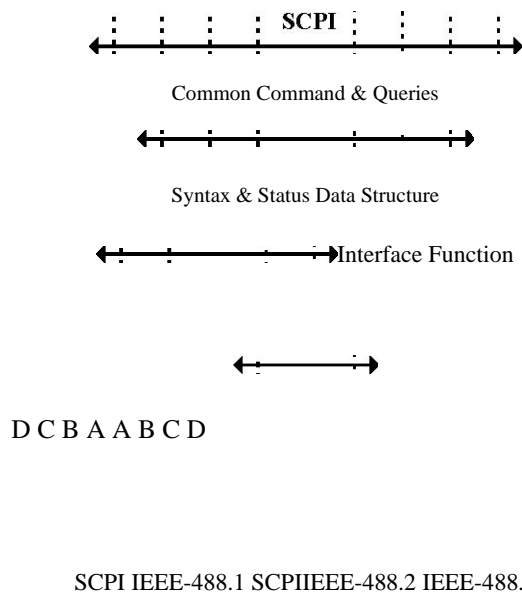

Figure 3-1: the relationship between IEEE-488.1, IEEE-488.2, and SCPI.
As shown in the figure 3-1, the IEEE-488.1 standard is located at layer A and layer A belongs to the protocol of interface function on the GPIB bus. The source handshake (SH), acceptor handshake (AH) and talker are included in this layer (10 interface functions in total). At layer B, the syntax and data structure are the essence of the entire IEEE 488.2 standard. The syntax defines the function of the message communication, which contain the <PROGRAM MESSAGE> (or simply "commands") and <RESPONSE MESSAGE>. The two kinds of messages represent the syntax format of a device command and return value. The data structure is the foundation of